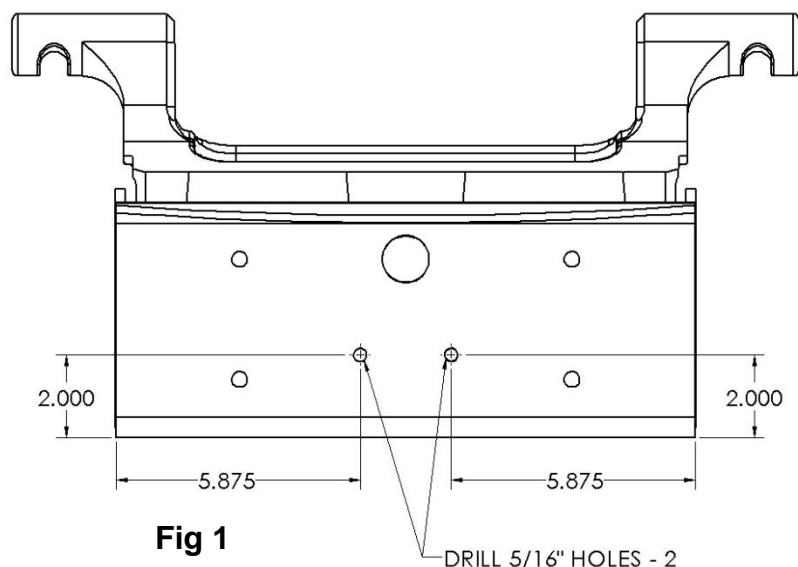

Fig 1
1. Mark the two locations for the 5/16" holes as shown in Figure 1